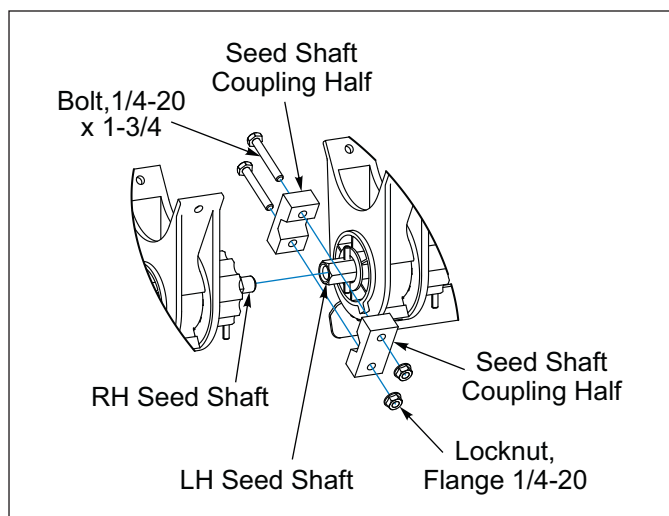

Figure 5-10: Front Box Seed Shaft Coupler
2. **Front Seed Box:** Adjusting the LH and RH Seed Shafts where they join changes Seed Meters on the left Seed Box in comparison with Seed Meters on the right Seed Box. Remove Seed Shaft Coupling that clamps the left and right Seed Shafts together. Turn RH Seed Shaft threading it in or out as needed to equalize Seed Meters. Re-Install Seed Shaft Coupling where the RH and LH Seed Shafts come together. See Figure 5-10.